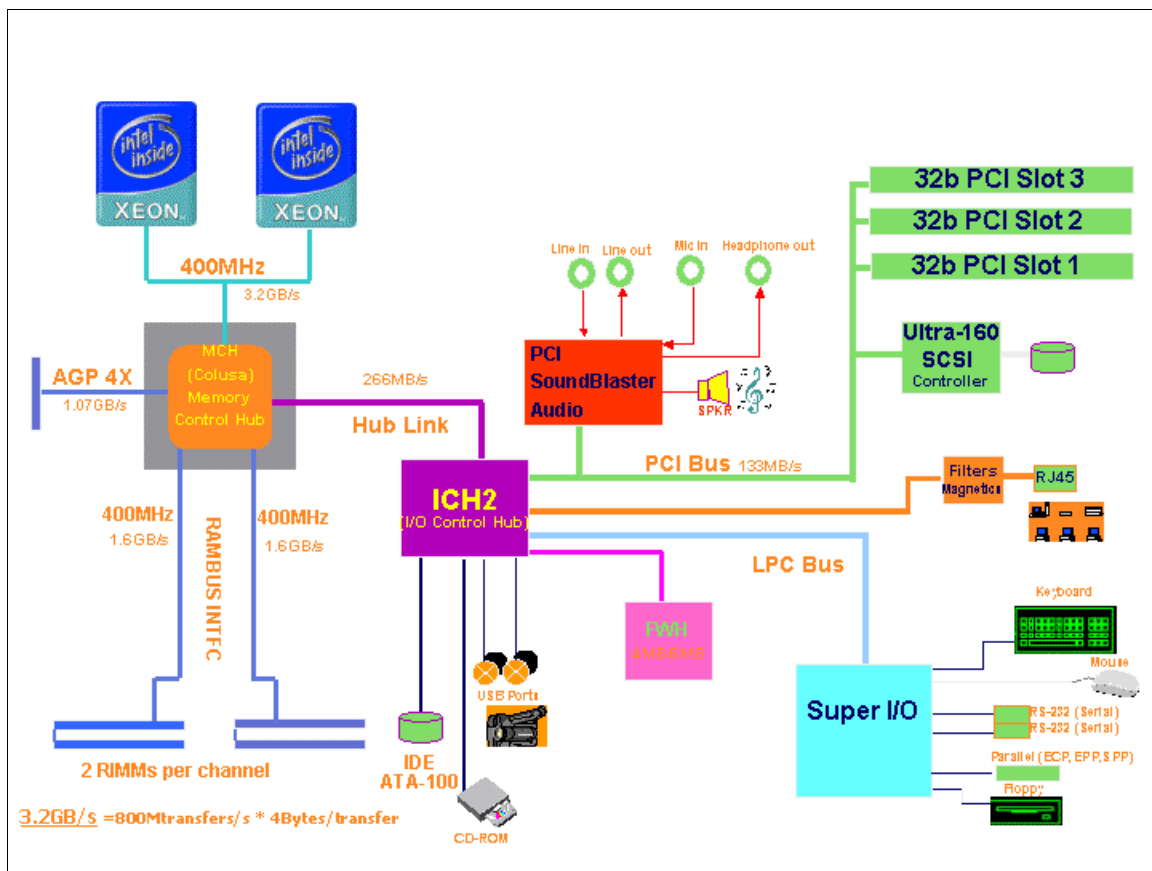

Figure 6: Evo Workstation W6000 with Dual Xeon — Architectural Overview
To best meet customer needs, the Evo Workstations W6000 and W8000 are designed to have optimal price/performance characteristics while at the same time delivering superior scaling and expandability. Key architectural differences between the W6000 and the W8000 affect total system memory and I/O expansion capabilities. Both the W6000 and the W8000 provide feature-rich integrated devices such as 10/100Mbps LAN, Dual Channel ATA100 IDE, four (4) USB ports, advanced Audio, and seamless system management capabilities. The Workstation W6000 supports 2GB/s of system memory, and has one AGP-4x Pro slot and three PCI expansion slots. The Workstation W8000 supports 4GB/s of system memory, one AGP-4X Pro Slot, and six PCI slots partitioned in two independent segments of 32 bits/33MHz and 64 bits/66MHz. Figures 6 and 7, respectively, provide an overview of the architecture of the Compaq Evo Workstations W6000 and W8000.